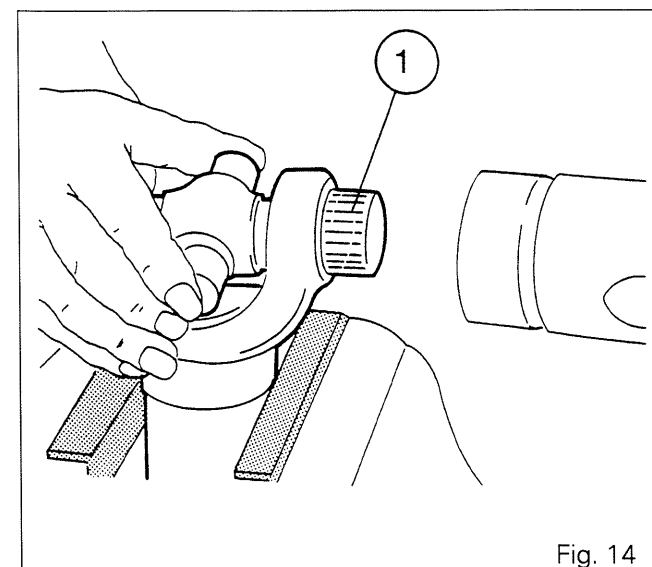

Fig. 14
91. Drive the sleeve (1) deep enough into the yoke, while holding the spider (Fig. 14), to permit insertion of the circlip.